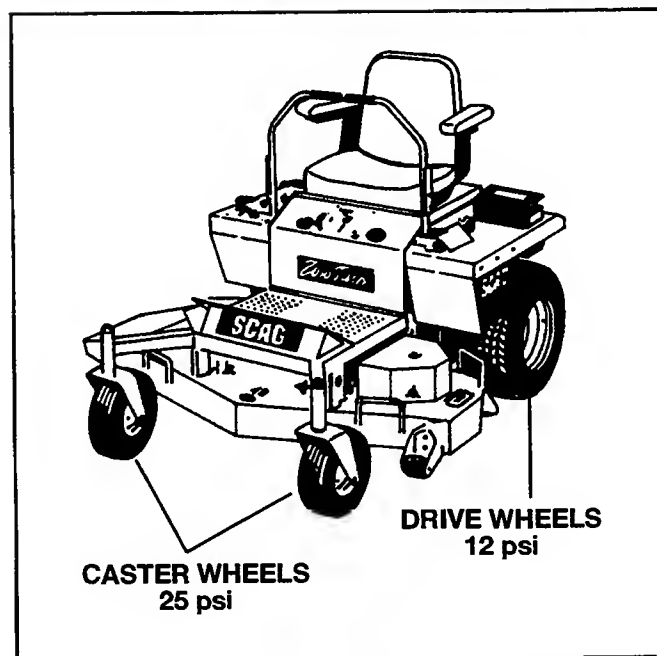

Figure 4
10. Before adjusting deck height (step 11), check tire pressures. (See Figure 4) Correct pressure of drive tires is 12-14 psi. Pressure for caster tires is 25 psi. Make sure pressure for each set of tires is the same.
1. Before making this adjustment, check tire pressure of drive wheels. Tire pressure for each wheel must be equal. (See Figure 4) If tire pressures are not equal, machine will pull to the side with the lower tire pressure.